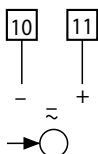

Fig. 5. Power supply connection.
Connect the power supply to terminals ⑩ (≈) and ⑪ (±) as shown in Fig. 5.